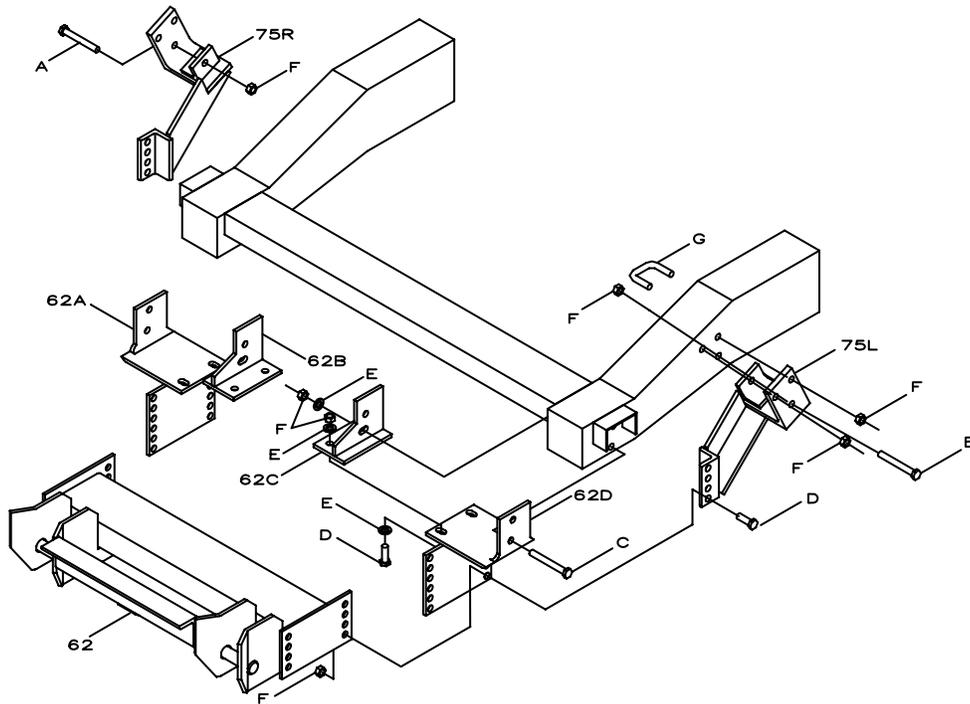

Figure 1
1. Position the PUSH BEAM SUPPORT PLATE (LH) (Ref 62D, Figure 1) to the front outside of the truck frame as shown in figure 1. Place the PUSH BEAM SUPPORT PLATE INSIDE MOUNT (LH) (Ref 62C, Figure 1) on the other side of the frame rail and bolt through the frame using two ½" x 13 – 6" HEX HEAD BOLTS, ½" HARDENED WASHERS, and ½" x 13 HEX HEAD SELF LOCKING NUTS. Insert two ½" x 13 – 2" HEX HEAD BOLTS with ½" HARDENED WASHERS through the bottom of the PUSH BEAM SUPPORT PLATE (LH) and secure using ½" x 13 HEX HEAD SELF LOCKING NUTS, with two ½" HARDENED WASHERS.
2. Using the same procedure as above, install the PUSH BEAM SUPPORT PLATE (RH) and PUSH BEAM SUPPORT PLATE INSIDE MOUNT (Ref 62, Figure 1) between the PUSH BEAM SUPPORT PLATES and secure using ½" x 13 – 2" HEX HEAD BOLTS, and ½" x 13 HEX HEAD SELF LOCKING NUTS. Install only the front two bolts on each SUPPORT PLATE.
3. Position the PUSH BEAM ASSEMBLY (Ref 62, Figure 1) between the PUSH BEAM SUPPORT PLATES and secure using ½" x 13 – 2" HEX HEAD BOLTS, and ½" x 13 HEX HEAD SELF LOCKING NUTS. Install only the front two bolts on each SUPPORT PLATE.
4. Position the ANGLE BRACKET (LH) (Ref 75L, Figure 1) to the truck frame. With the frame mount end of the ANGLE BRACKET held tightly against the bottom of the frame mark the bolt holes to attach the ANGLE BRACKET. Secure the ANGLE BRACKET to the PUSH BEAM SUPPORT PLATE and PUSH BEAM ASSEMBLY using two ½" x 13 – 2" HEX HEAD BOLTS, and ½" x 13 HEX
5. Install the ANGLE BRACKET (RH) (Ref 75R, Figure 1) using the same procedure as above, but with a ½" x 13 – 4 ½" HEX HEAD BOLT.